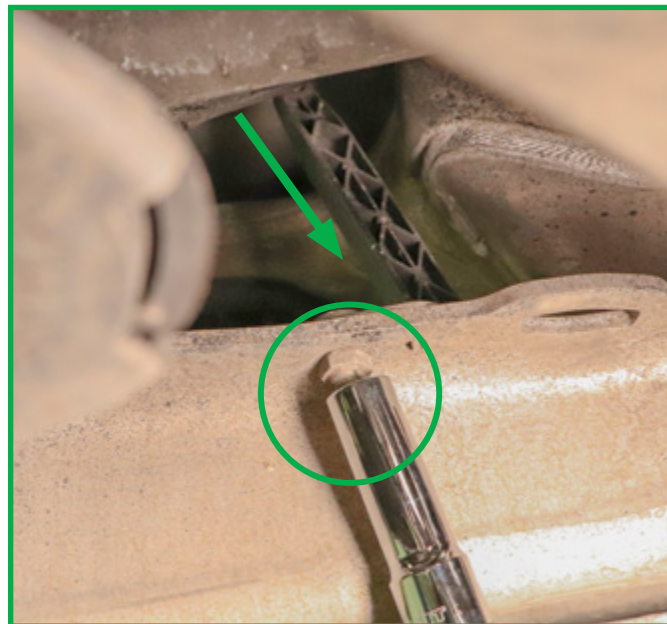

FIGURE 40
10. Reinstall the ride height sensor in the exact orientation as removed. (Figure 40)